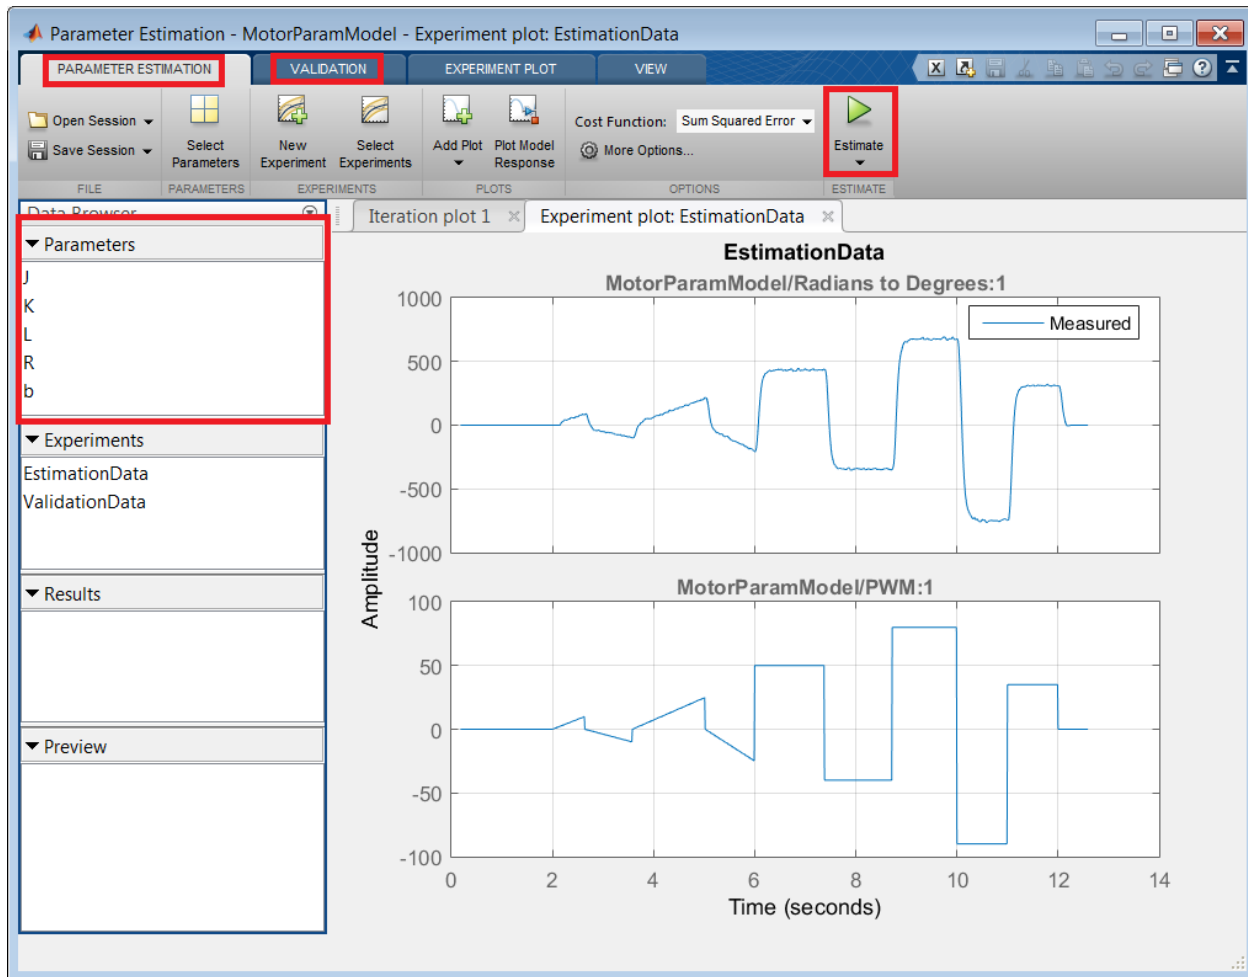

Figure 39 - Parameter Estimation Tool – Estimation
4. Navigate to the **'Parameter Estimation'** tab as shown in Figure 39 and click on **'Start'** to begin the parameter estimation.
5. Once the estimation is finished, navigate to the **'Parameters'** pane (Figure 39).